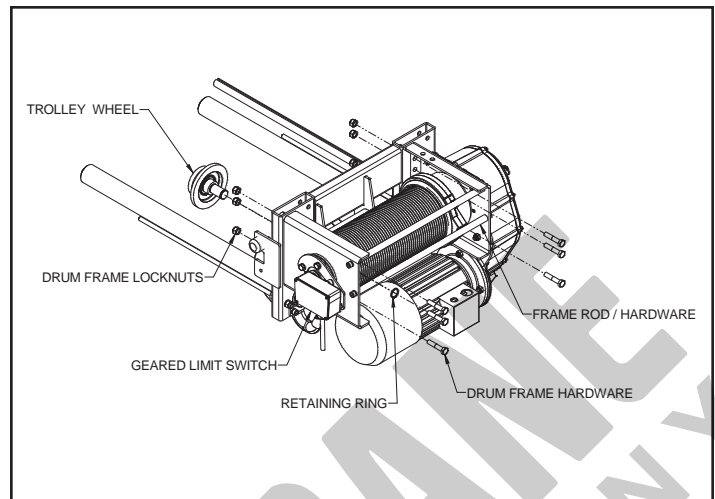

Figure 5-6. Drum Frame & Geared Limit Switch
- b) Remove the geared limit switch or disconnect the wires so that the electrical cable will not inhibit removal of the drum. (see Figure 5-6).
- c) Remove the hoist from the beam, place it on the ground and provide adequate means to support the drum before removing the frame rod cap screws and rods at the outboard end drum frame (see Figure 5-6).